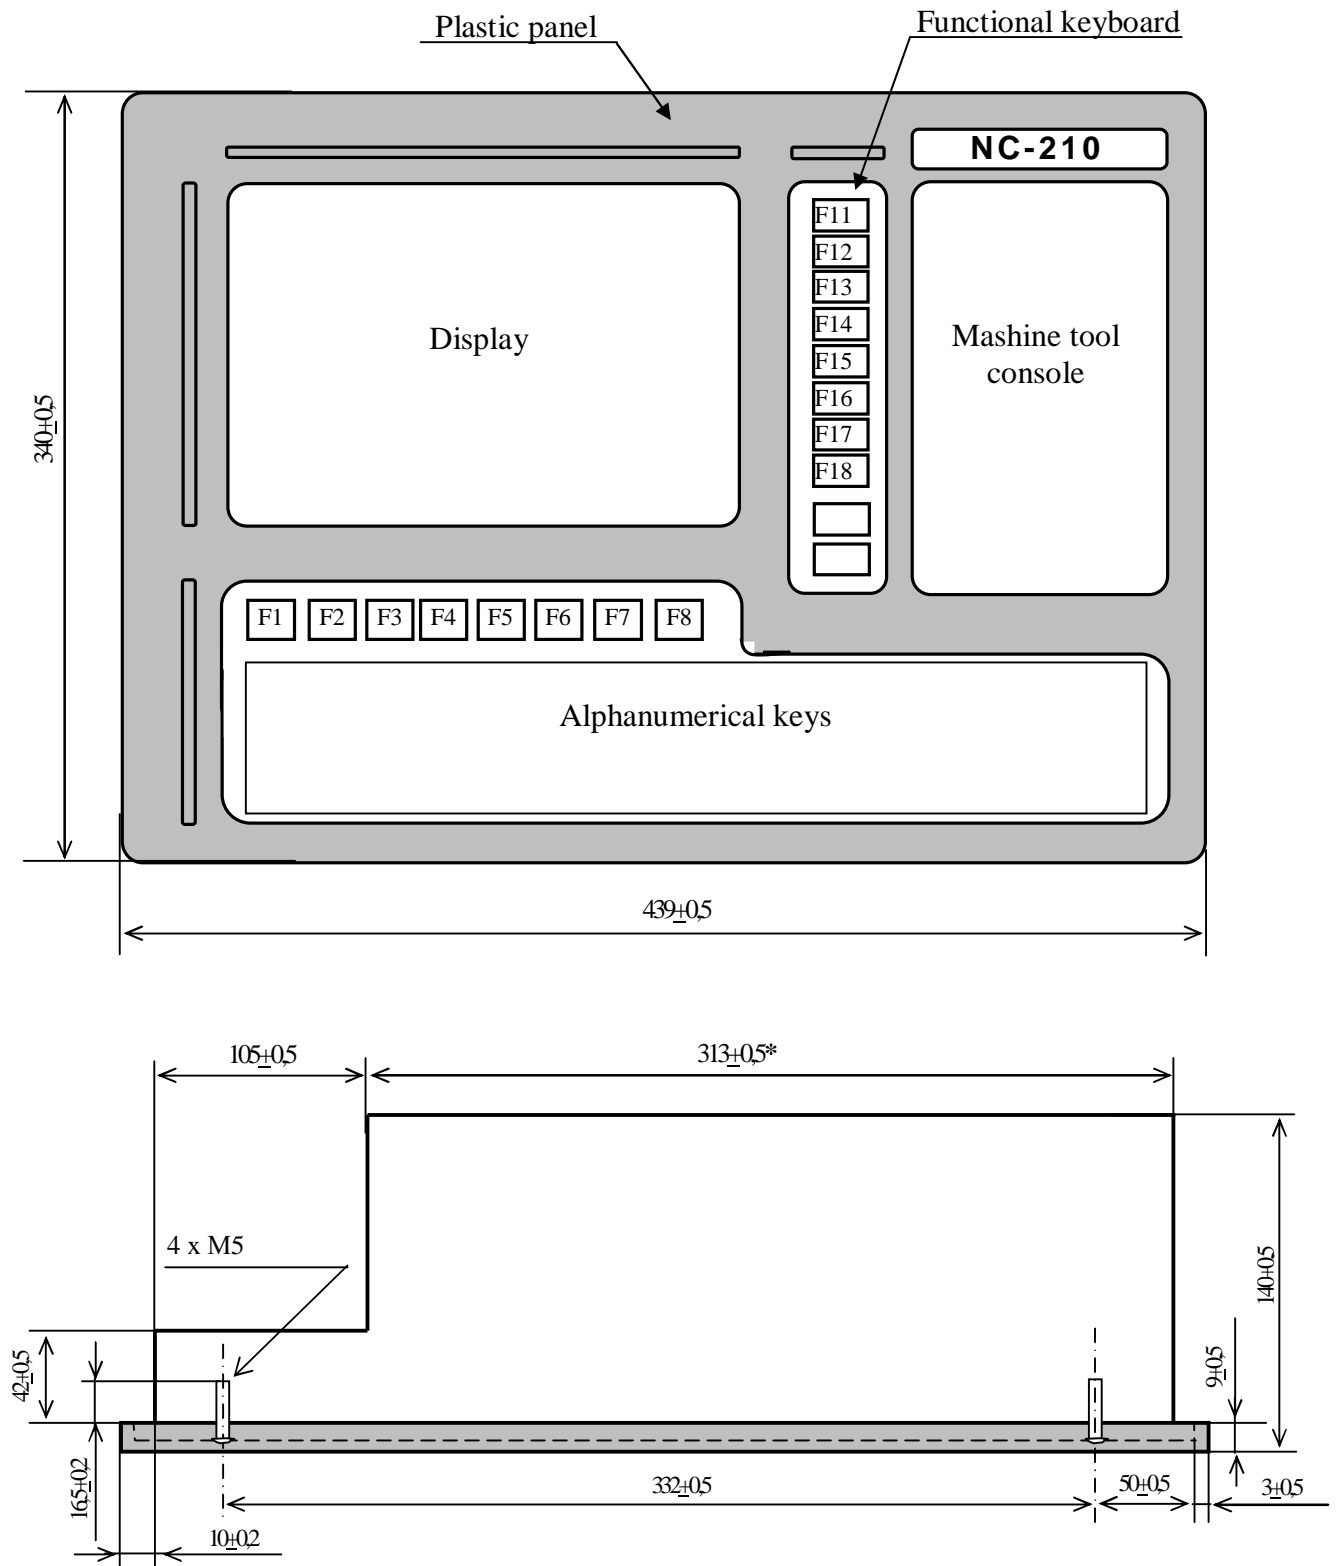
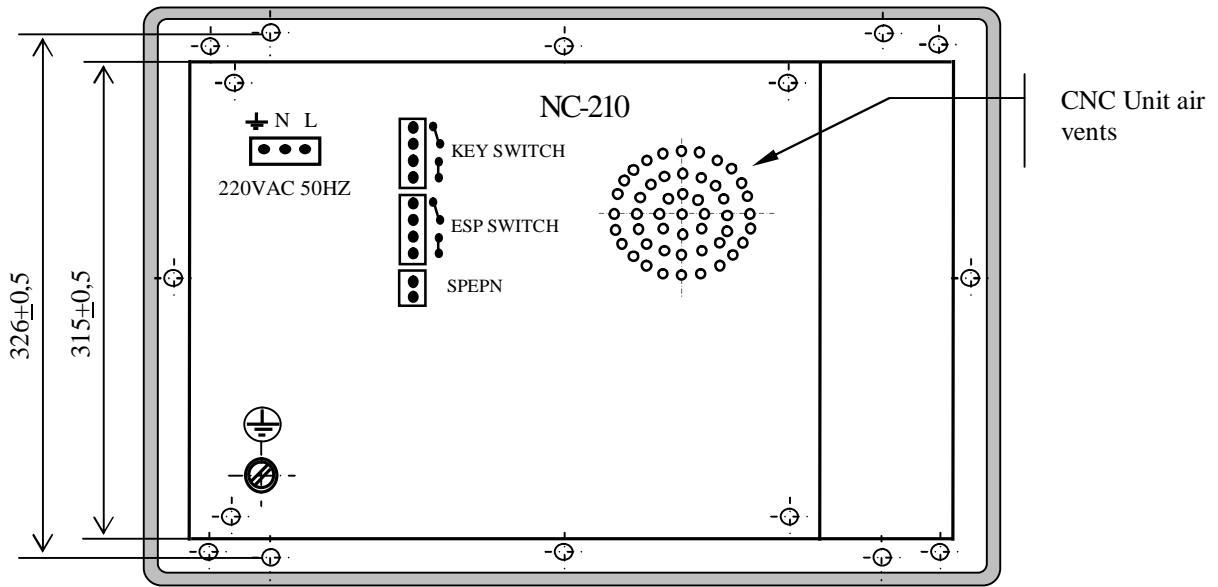

Figure 3.2 – Basic dimensions of the NC-210 CNC Unit
Figure 3.3 – View of the rear panel of the NC-210 CNC Unit
3.2.1 In terms of its design, the CNC Unit represents a mono-block, for built-in mounting and it incorporates a control unit (CU), an operator's panel (OCP) and a power supply unit (PSU). The main overall and mounting dimensions of the CNC Unit are given in Figure 3.2. The rear panel view of the CNC Unit is given in Figure 3.3.
A grounding screw is mounted in the lower part of the outside surface of the casing, which forms the rear panel of the CNC Unit. The casing has slits to secure access to the connectors that open onto the CNC rear panel, as shown in Figure 3.3.